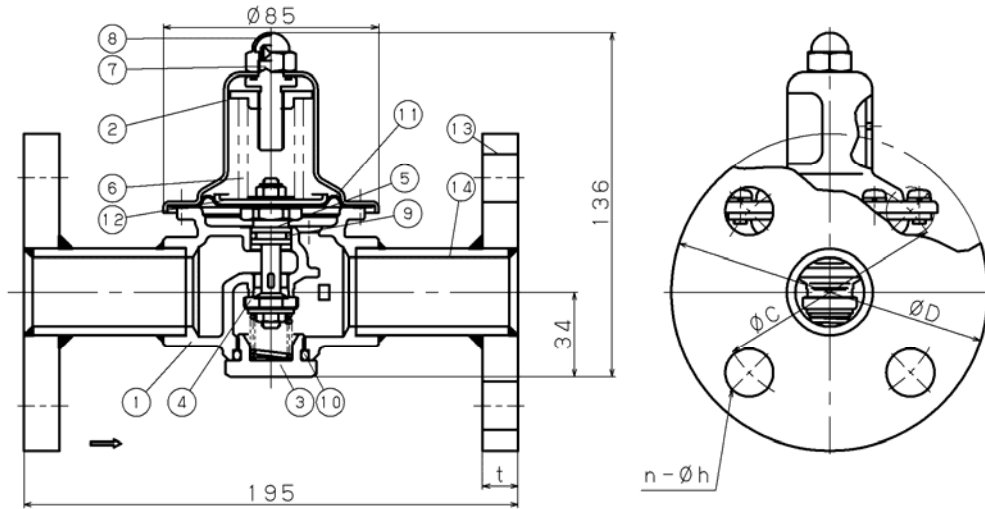

fig.3
3.3 GD-43-20 Type, GD-43G-20 Type (Refer to fig.3 , table 5 , and table 6.)